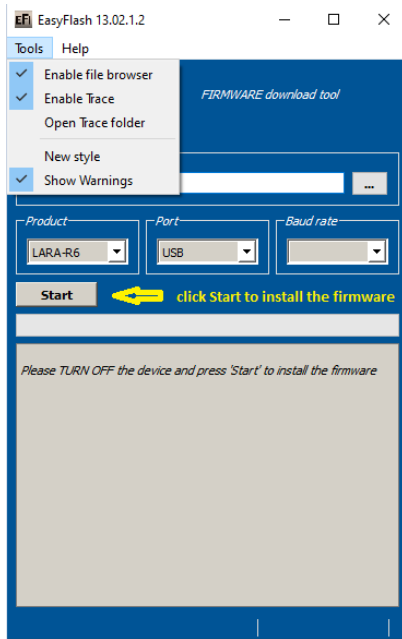

Figure 9: Setting up EasyFlash and starting the FW installation
6. Click "Start" button (see Figure 9).